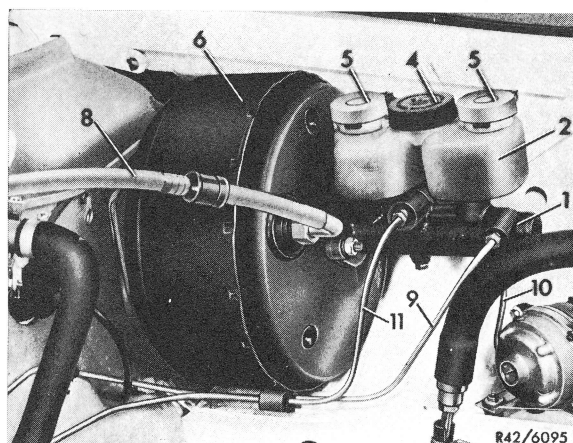

Fig. 2
**3** Disconnect both brake lines (9 and 10) toward front wheel brake and brake line (11) toward rear wheel brake on tandem master cylinder (Fig. 2).